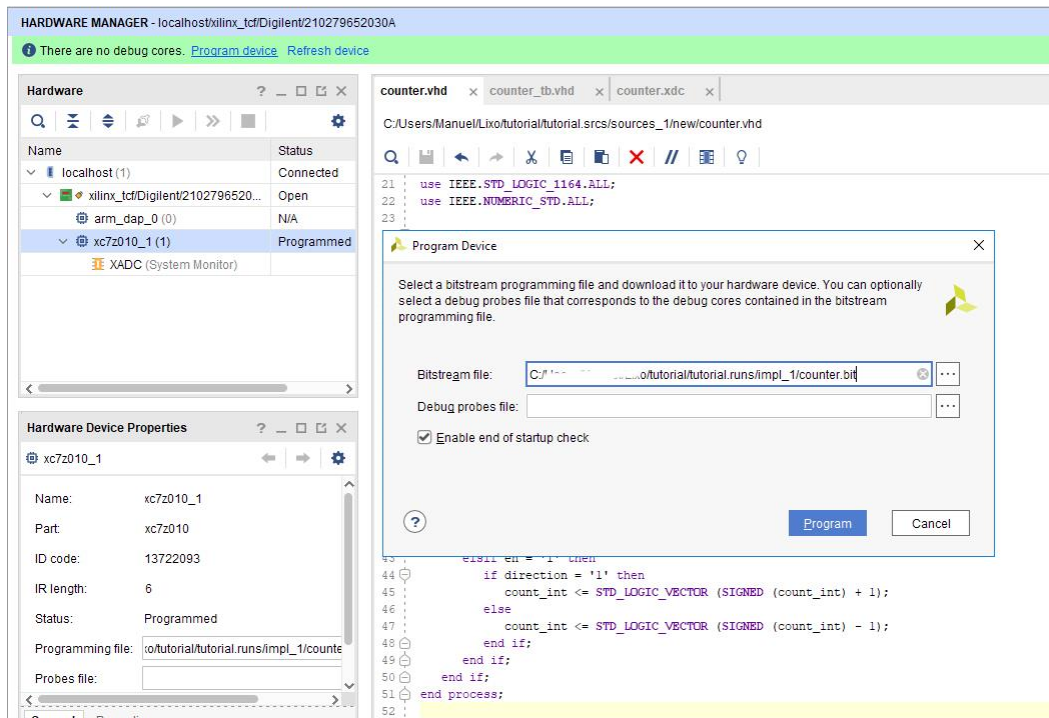

Figure 37
9. In the new **Program Device** window, check that the configuration file is the **counter.bit** file and click **Program** (Figure 37)